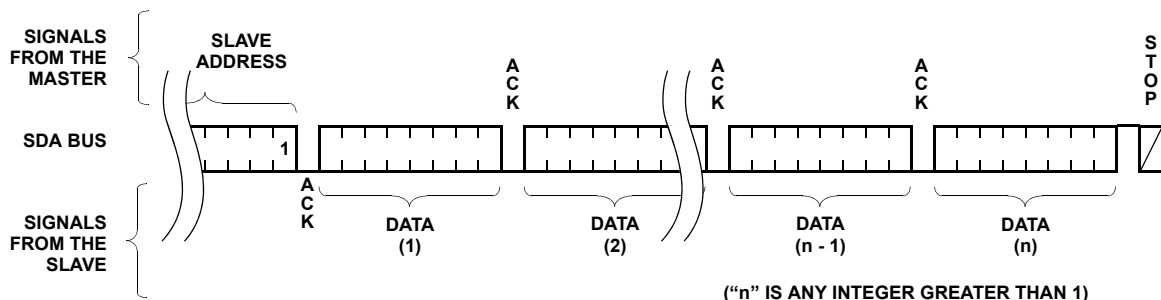

FIGURE 11. SEQUENTIAL READ SEQUENCE (“n” IS ANY INTEGER GREATER THAN 1)
The data output is sequential, with the data from address n followed by the data from address n + 1. The address counter for read operations increments through all page and column addresses, allowing the entire memory contents to be serially read during one operation. At the end of the address space the counter “rolls over” to address 0000_H and the device continues to output data for each acknowledge received. Refer to Figure 11 for the acknowledge and data transfer sequence.
- one bit of the slave command byte is a R/W bit. The R/W bit of the slave address byte defines the operation to be performed. When the R/W bit is a one, then a read operation is selected. A zero selects a write operation. Refer to Figure 11.